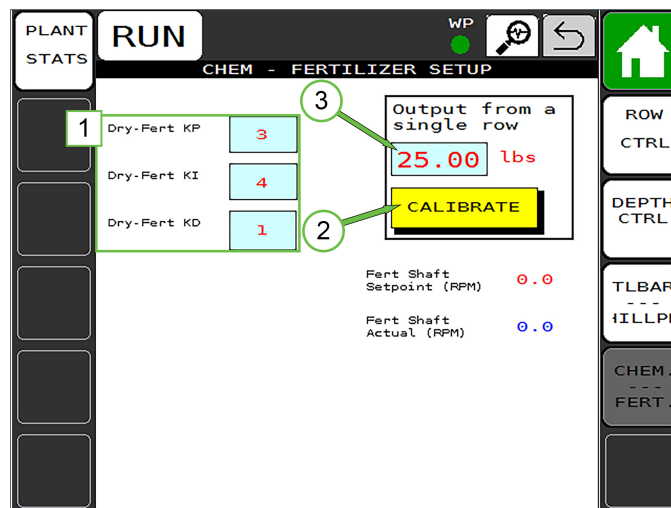

Figure 15
Touch the (3) Settings key to access the Chemical and Fertilizer settings screen. (see Figure 15)